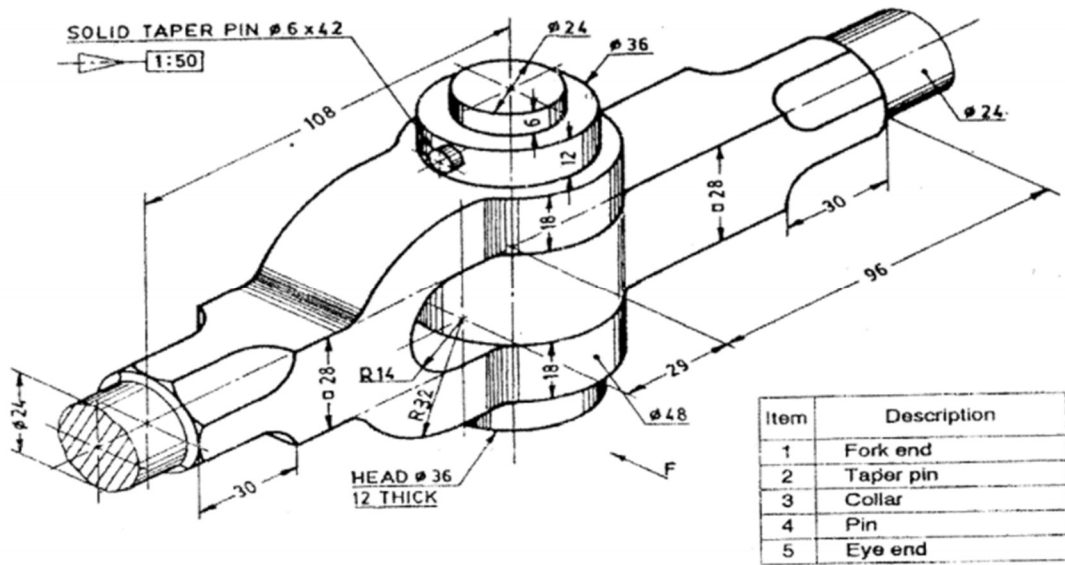

Figure-2. Knuckle joint
1. An isometric view of a knuckle joint is shown in figure-2. Draw the top half sectional elevation and end view looking from left side. Dimension the views and prepare the item list showing quantity and material of items.